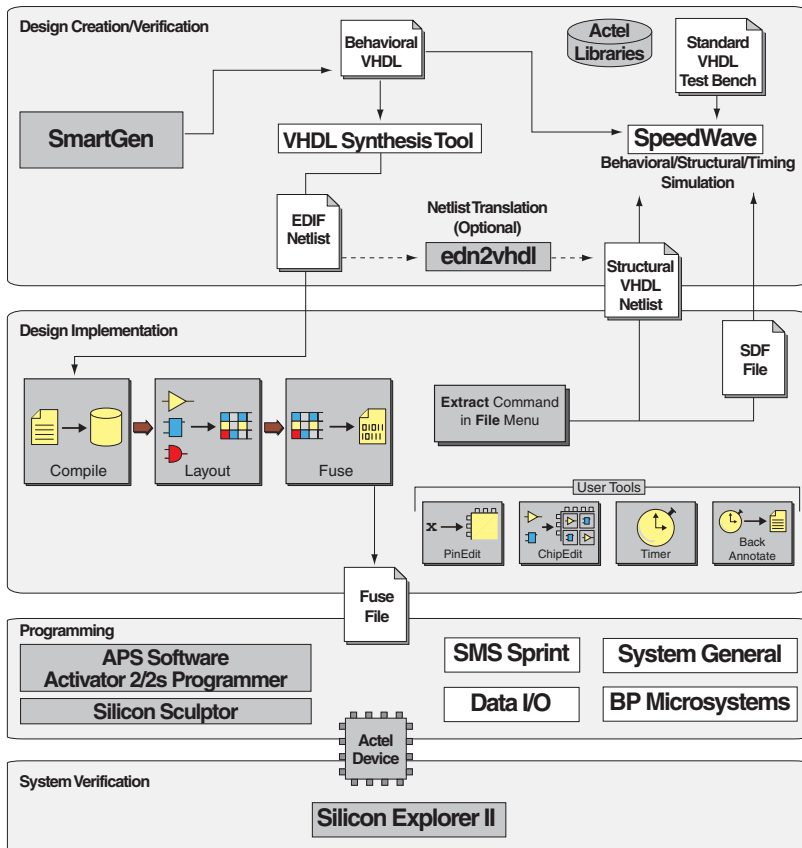

Figure 2-3. Actel-Innoveda VHDL Synthesis-Based Design Flow
Figure 2-3 shows the VHDL synthesis-based design flow for an Actel device using the Powerview and Designer Series software¹.
1. The grey boxes in Figure 2-3 denote Actel-specific utilities/tools.